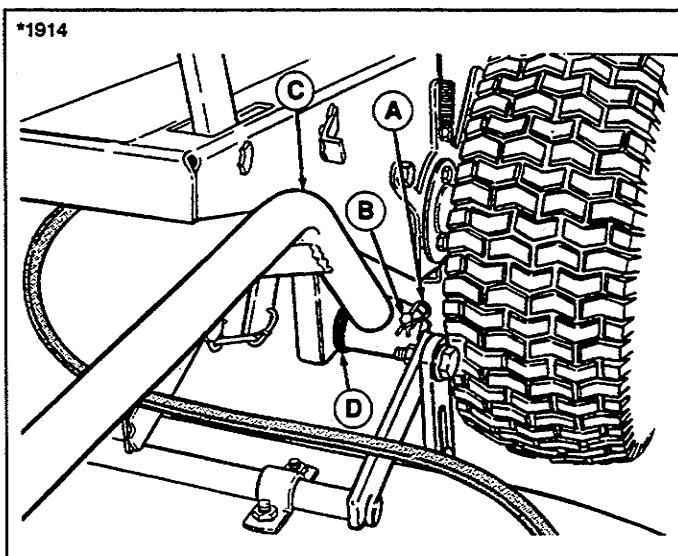

Figure 8. Hitch Arms
6. Install mower hitch arms to rider hitch arms. See figure 8. Make sure large washer (D) is placed on rider hitch arms. Secure with clevis pins and spring clips.
- See figure 8. Remove the spring clips (A) and clevis pins (B) from mower hitch arms (C). Drop mower hitch arms and remove large washer (D) from rider hitch arm. For storage, install clevis pin (B) and spring clip (A) onto mower hitch arm with large washer (D) in between hardware.